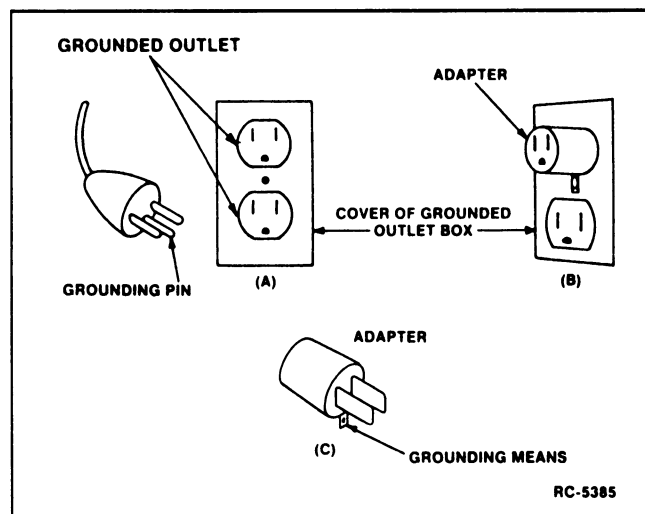

Figure 1 - Grounding Methods
15. The battery charger Model H2A1L2A is for use on a nominal 120 Vac circuit, and has a grounding plug that looks like the plug illustrated in sketch A of Figure 1. A temporary adapter, which looks like the adapter illustrated in sketches B and C, may be used to connect this plug to a two-pole receptacle as shown in sketch B if a properly grounded outlet is not available. The temporary adapter should be used only until a properly grounded outlet can be installed by a qualified electrician.
16. **DANGER** - Before using adapter as illustrated in Figure 1, be certain that center screw of outlet plate is grounded. The green-colored rigid ear or lug extending from adapter must be connected to a properly grounded outlet - make certain it is grounded. If necessary, replace original outlet cover plate screw with a longer screw that will secure adapter ear or lug to outlet cover plate and make ground connection to ground outlet.